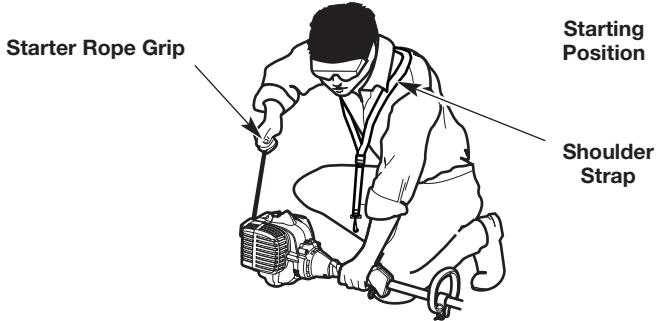

Fig. 20
**WARNING:** Avoid accidentally starting the unit. To avoid serious injury, the operator and the unit must be in a stable position when pulling the starter rope (Fig. 20).
3. Put the shoulder strap over the operator's head and onto the left shoulder (Fig. 20).
3. Crouch in the starting position (Fig. 20).
4. Pull the starter rope with a controlled and steady motion until the unit starts (Fig. 20).